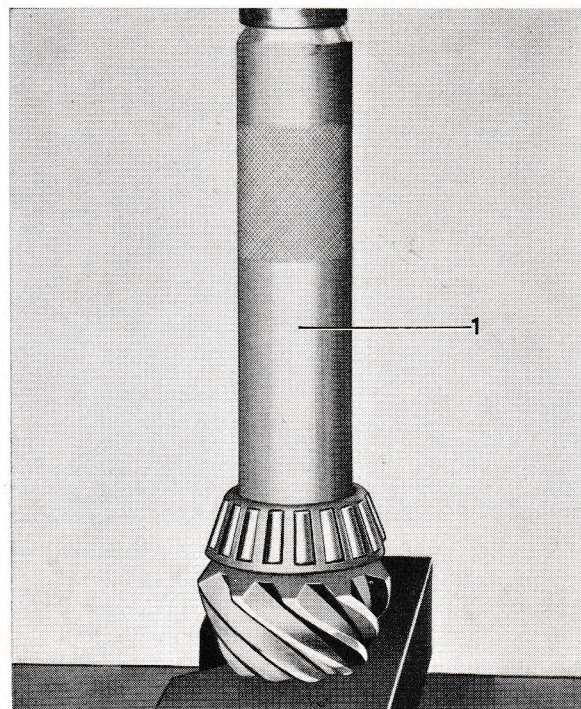

Fig. 32. Fitting the rear pinion bearing.
2. Press the rear bearing (26) onto the pinion (16). Use tool SVO 2395, see Fig. 32.
3. Replace the same number of shims (25) for the rear pinion bearing outer ring as were there